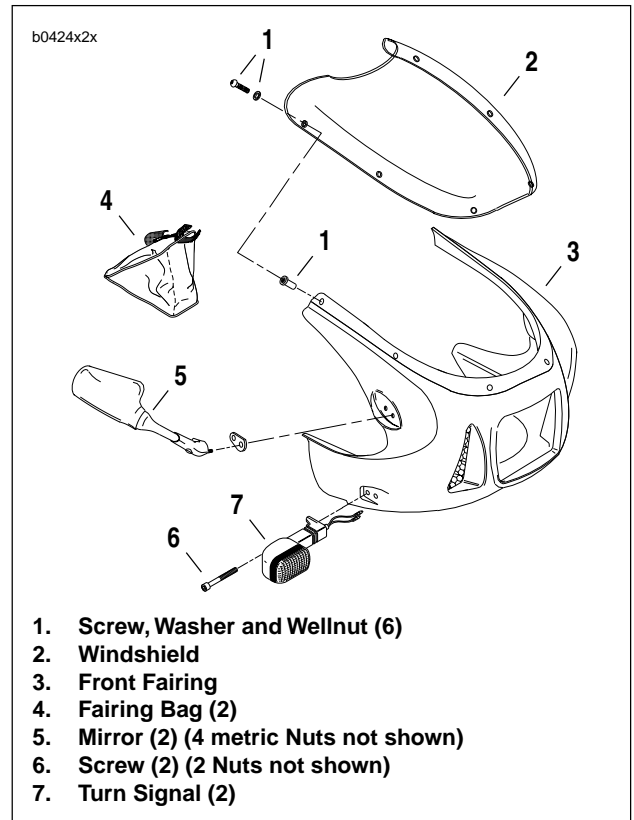

Figure 2-109. Front Fairing
1. See Figure 2-109. Remove both fairing bags (4) from S3T models.
2. Remove both front turn signals (7).
- b. Remove nut and screw (6) to detach turn signals. Use caution not to scratch front fairing.
3. Remove two nuts (metric) on each mirror (5). Remove mirrors while supporting front fairing. Pull front fairing away from front fairing bracket.
4. Remove six screws and washers (1) to separate windshield (2) from front fairing (3).
1. See Figure 2-109. Attach windshield to front fairing using six screws and washers (1).
2. Align front fairing on front fairing mount. Loosely install both mirrors (5) using two nuts (metric) on each.
3. Install front turn signals (7). See 7.14 TURN SIGNALS.
5. Install both fairing bags (4) on S3T models.